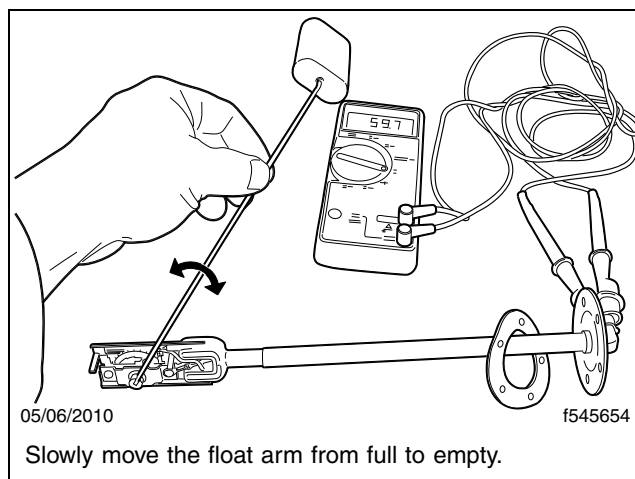

Fig. 6, Testing the Fuel Level Sending Unit
- 5.3 Connect an ohm meter to the pins at the fuel level sender connector. Slowly change the level of the float arm from full to empty. See **Fig. 6**.